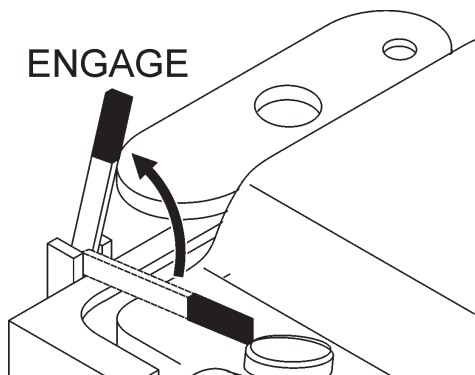

Figure 39. Transmission Engage/Disengage Lever (Engage Position)
2. Lift the **transmission engage/disengage lever**, located on the console (Figure 39). Leaving the lever down disengages the transmission to allow for manual pushing during cutting or moving the machine around the job site.